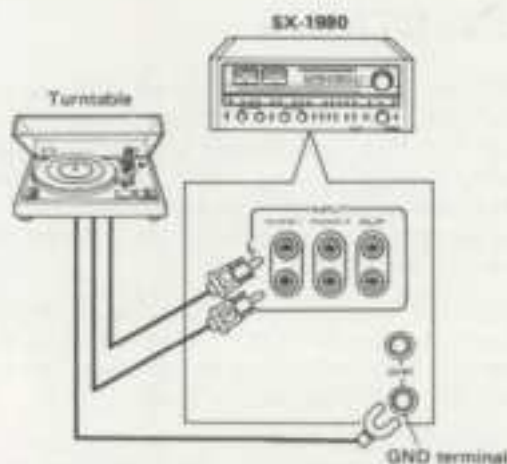

Fig. 2
Connect the output cords of a turntable using a moving magnet (MM) cartridge to the PHONO 1 input jacks. Connect the ground lead of the turntable to the GND terminal on the receiver (Fig. 2).